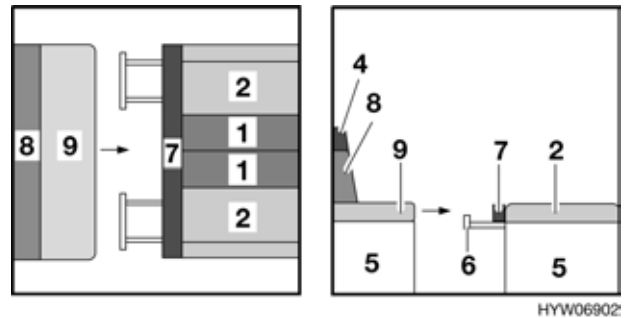

Fig. 80 During conversion
- Pull out as far as possible the bedding box extension (Fig. 80,6) on both bedding boxes of the central seating group.
- Lift the divan slightly (Fig. 80,9) and pull out as far as possible.
- Remove the additional cushion (Fig. 80,4) from the back cushion (Fig. 80,8). The additional cushion is fixed to the back cushion with Velcro and can easily be separated.